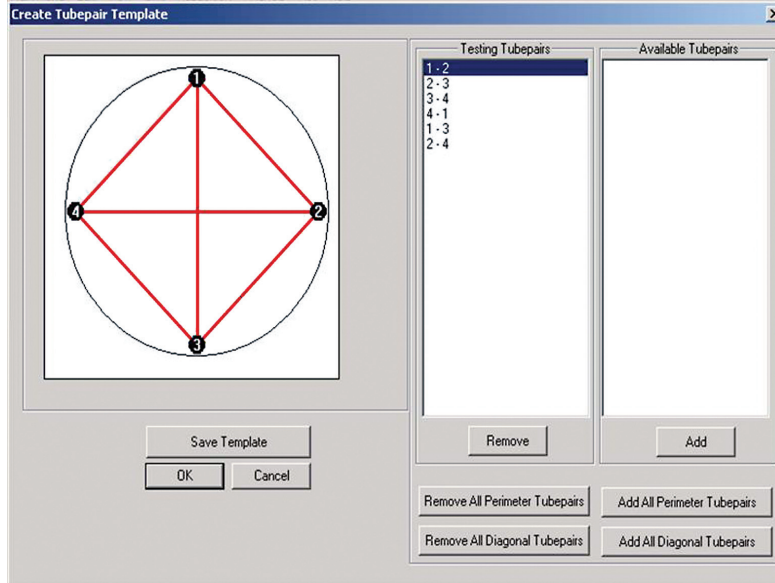

Figure 5: User-Defined Tube Template
9. The CSL software version 2.14 and higher supports user-defined tube templates. The tube template can be defined, saved and loaded. To define the tube template, click on "Define Tube Template" button. An applet as shown in Figure 5 (next page) will appear on the screen. Users can add/remove tube-pairs from the pre-defined template. The user-defined template can be saved by clicking on "Save Template" button.